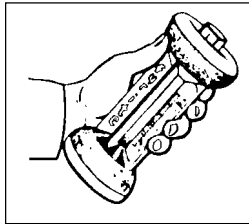

Figure 3
3. Turn upright. Hold FYRITE at 45° angle (Fig. 3) momentarily to allow fluid droplet drainage into bottom reservoir.
3. Turn upright. Hold FYRITE at 45° angle to drain fluid into bottom reservoir. Turn upright. Repeat sequence of Steps 1, 2, and 3 twice until fluid level does not drop more than 1/2% when Plunger Valve is depressed. Turn upright. Hold FYRITE at 45° angle (Fig. 3) momentarily until excess fluid droplets have been drained from inside surfaces.